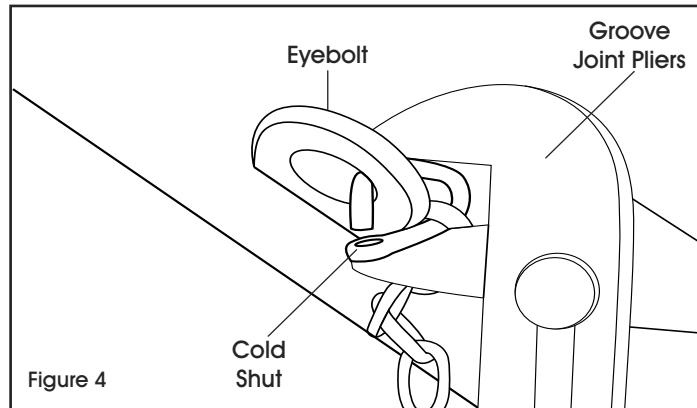

Figure 4
1. Thread cold shut through eyebolt and end of chain. Clamp cold shut closed using groove joint pliers. (See Figure 4)